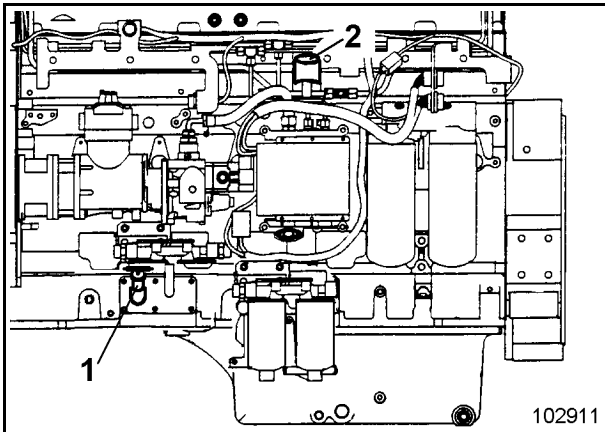
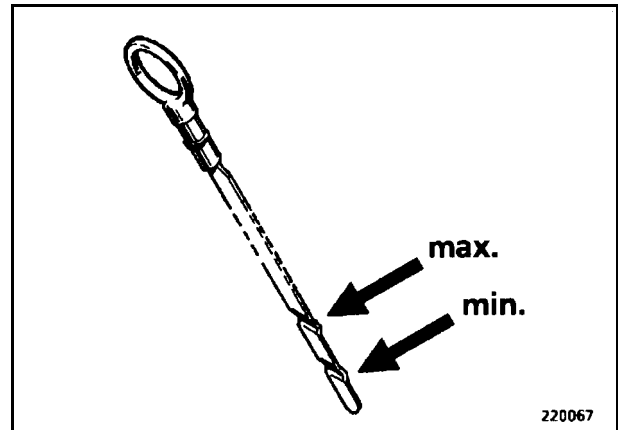
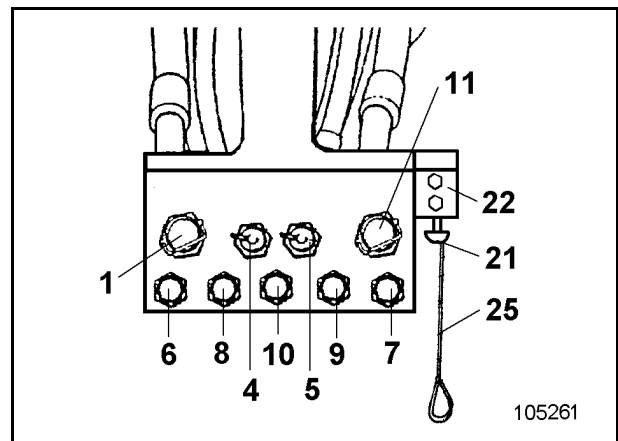

Fig. 3-19:
Fig. 3-20:
Fig. 3-21:
- ➔ Fill in engine oil through filler tube (2, Fig. 3-19:) until the oil level has reached the "max" mark (Fig. 3-20:) on dipstick (1).
- express coupling (8, Fig. 3-21:) for the lefthand engine
- express coupling (9) for the righthand engine
- until the oil level has reached the "max." mark (Fig. 3-20:) on dipstick (1, Fig. 3-19:).
- ➔ Check oil level at dipstick (1, Fig. 3-19:) and top up with oil to the "max" mark (Fig. 3-20:) if required.